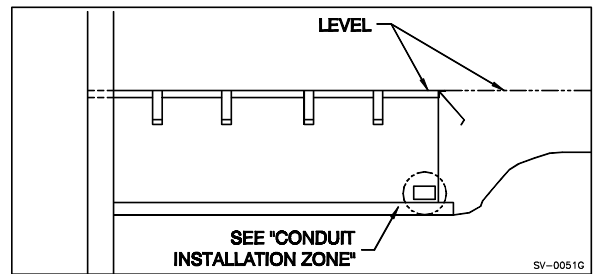

Figure 44: Conduits Required
1. \_\_\_ Provide holes in the side pan of the dock leveler for the electrical and/or hydraulic conduits. (See “Figure 44: Conduits Required” on page 36)
8. \_\_\_ Prior to pouring the concrete, re-examine the front and rear of the unit to ensure the top of the unit has remained level and in the desire final position. Once the concrete has been poured around the dock leveler, repositioning the dock leveler is very difficult and expensive. See “Figure 44: Conduits Required” on page 36. Ensure the temporary wire on hydraulic units is easily accessible. See “Figure 47: Accessible Temporary Wire” on page 37.
9. \_\_\_ Pour concrete to finished floor level and flush with the curb angle on all three (3) sides in **two stages**.